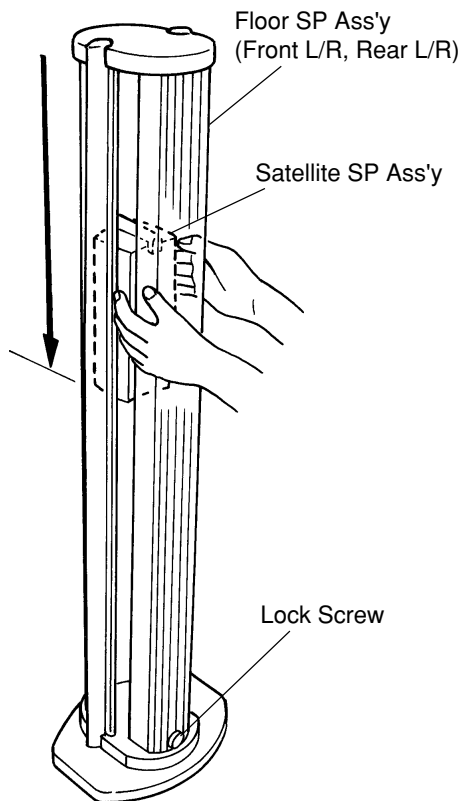

Fig. 1.1
Refer to Figs. 1.1 to 1.4.
- (1) Remove the Lock Screw at the bottom of the Floor SP Ass'y. See Fig. 1.1.
- (2) Move down the Satellite SP Ass'y by hand until it is located at around the center position. See Fig. 1.1